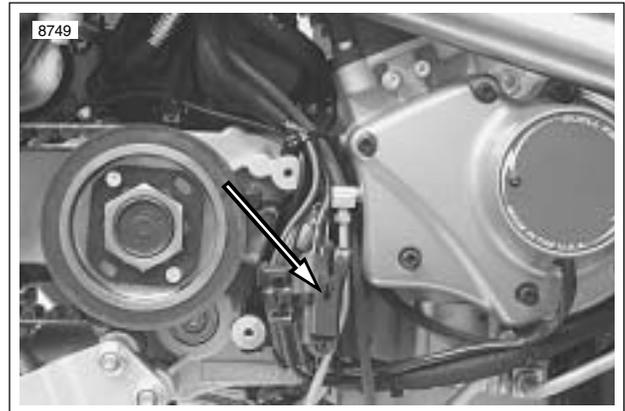

Figure 4-33. Cam Position Sensor Connector [14] (stator connector disconnected)
4. See Figure 4-33. Disconnect cam position sensor wiring at connector [14].